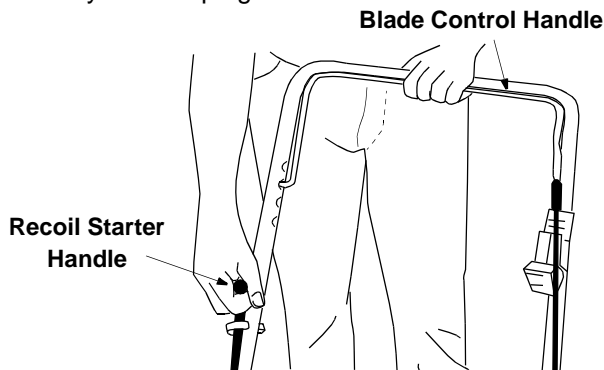

Figure 9
- Stand behind the unit, squeeze and hold the blade control handle against the upper handle as shown in Figure 9.